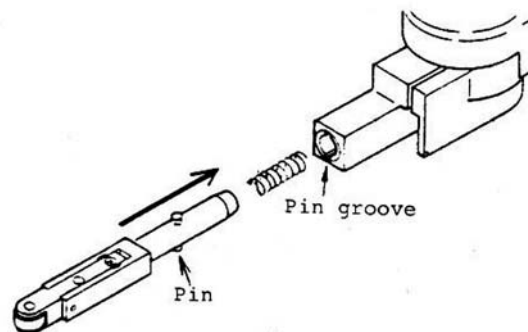

Figure 7
3. Insert new bracket by lining up pin with pin groove. See Figure 7.